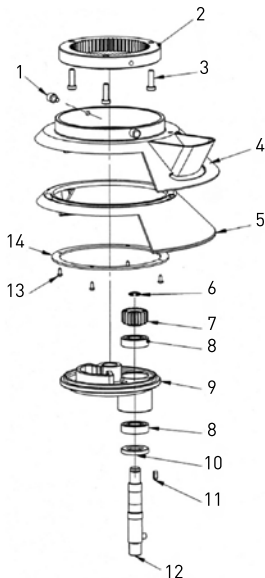

Figure 4: Bowl guard and turning axle
- Bowl guard and turning axle (Figure 4).
### Machine part list of Figure 4